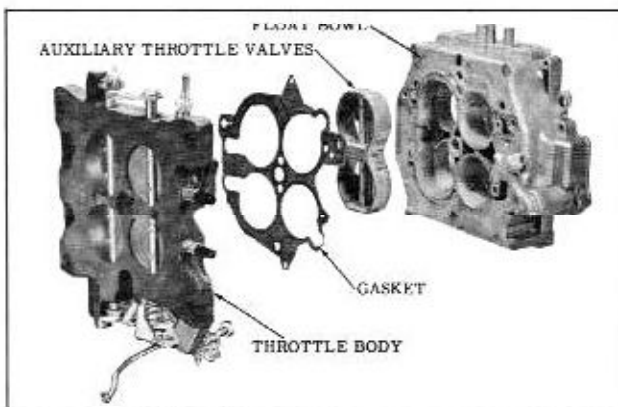

Fig. 8-113 Throttle Body and Auxiliary Throttle Valves
16. Invert the carburetor body and remove the four throttle flange attaching screws. Remove the throttle flange and gasket, (Fig. 8-113)
1. With the carburetor body in the inverted position, install the auxiliary throttle valve assembly so that the calibrated spring operating pin is down. (Fig. 8-113)